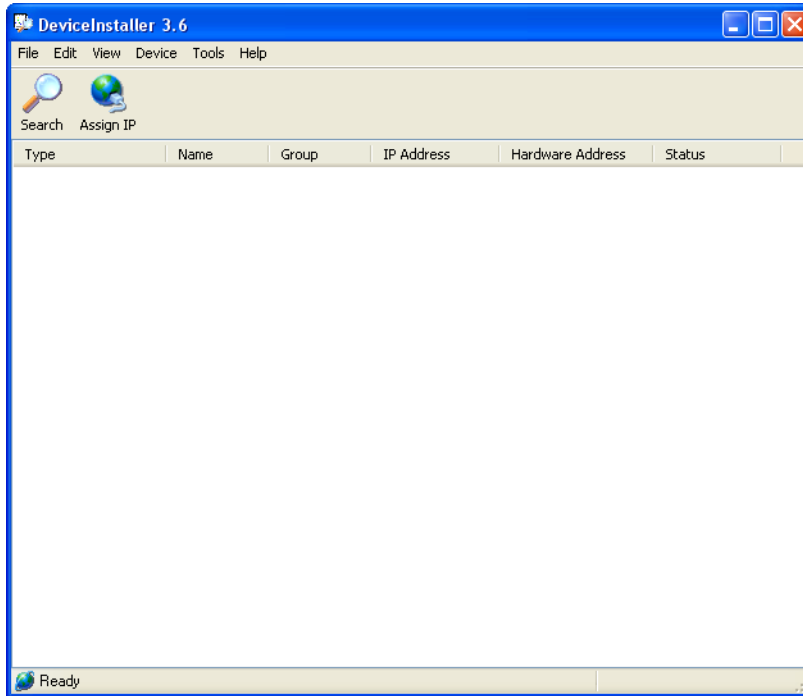

Figure 18: The DeviceInstaller Program Window
1. From the Windows Taskbar, click on Start > All Programs > Lantronix > DeviceInstaller > DeviceInstaller to start the configuration program. The DeviceInstaller program opens (see Figure 18).